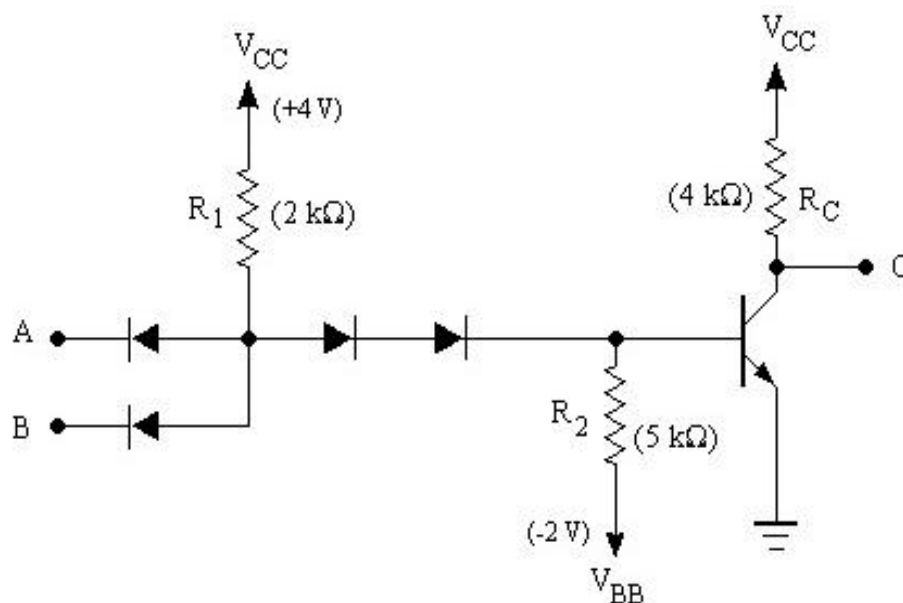

Figure 1.6: 2-input DTL NAND gate
- Figure 1.6 shows the discrete circuit for DTL NAND gate. It consists of input diodes and resistor R_D forming an AND gate and following them in transistor inverter.